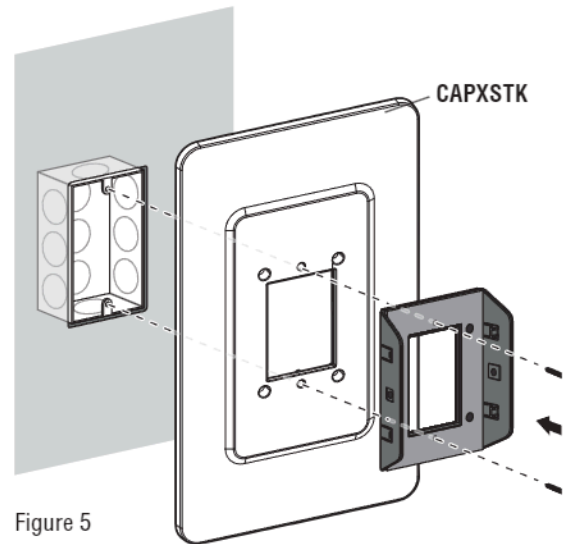

Figure 5
2. Fasten to the gang box or wall through the Mounting Bracket and Trim Panel using the hardware specified in the CAPXS Installation Manual. (See Figure 5)